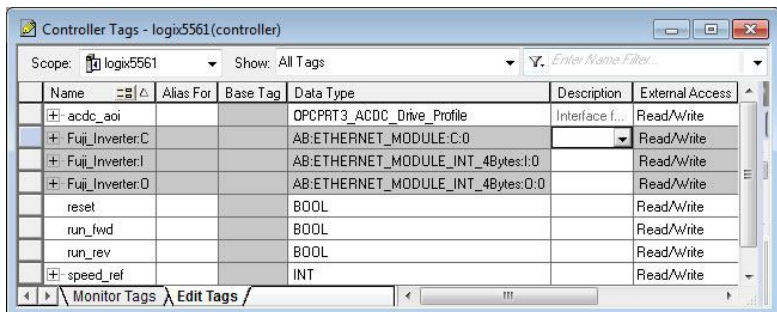

Figure 49: Create AC/DC Drive Profile AOI Tags
- 4) Create the tags in Figure 49.